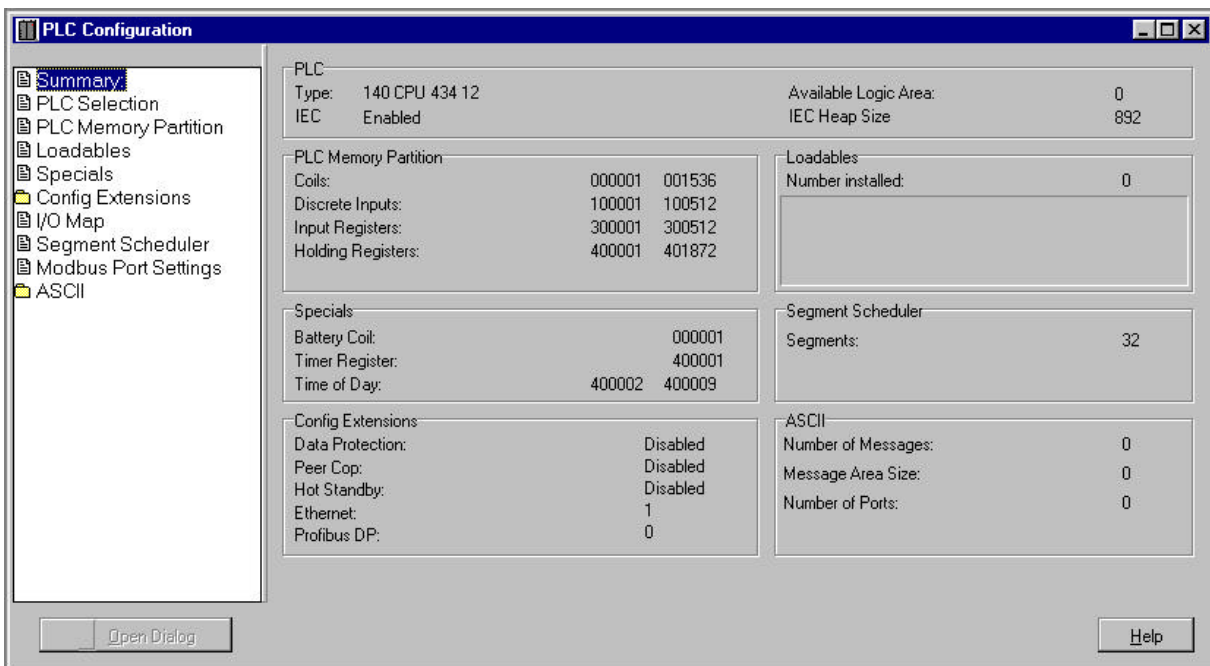

Figure 7. Concept configurator window
- Configure the PLC (see Figure 7).